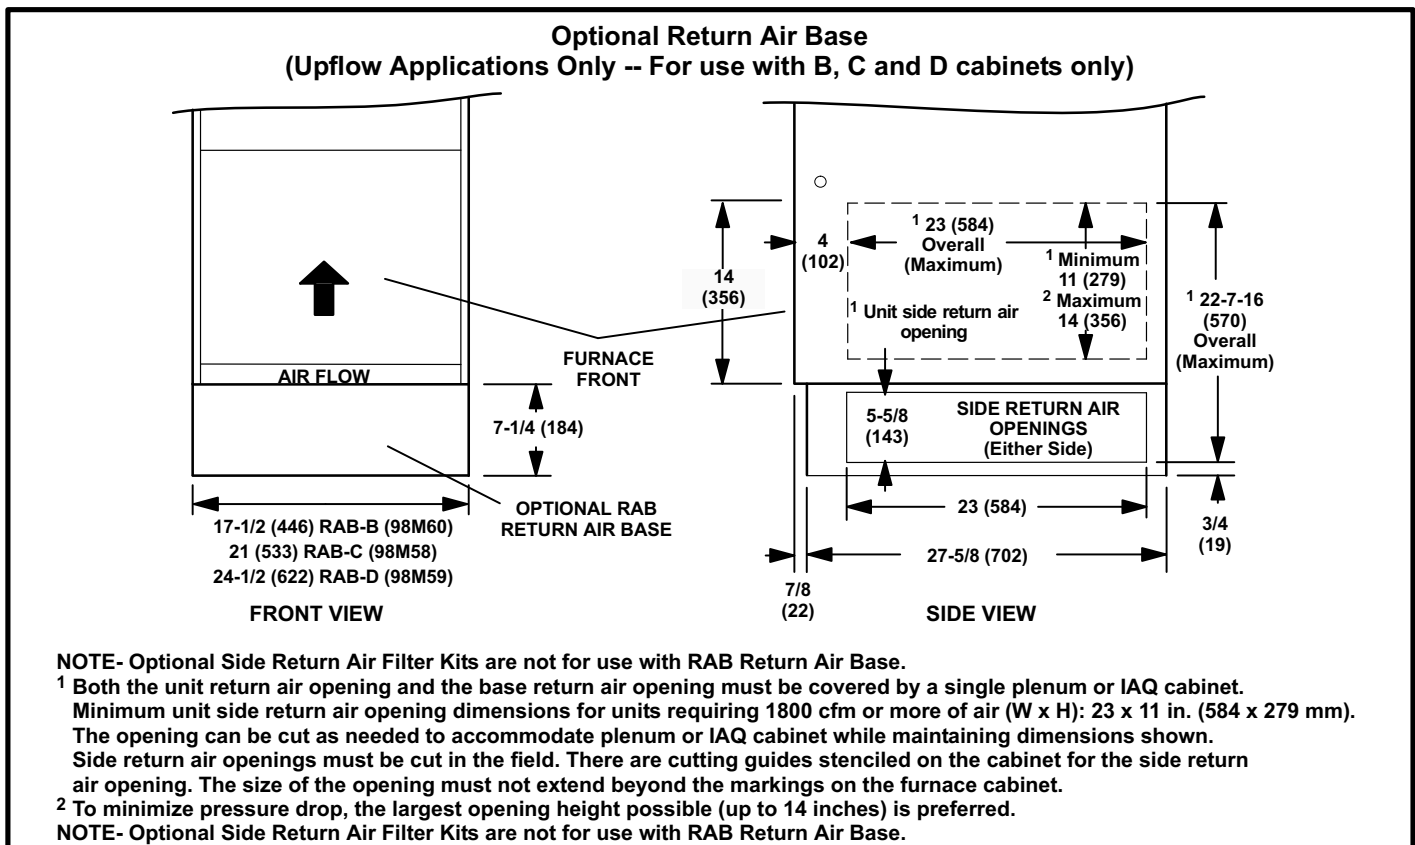

FIGURE 7
- 2 - Return air from single side with optional RAB Return Air Base. See figure 7.